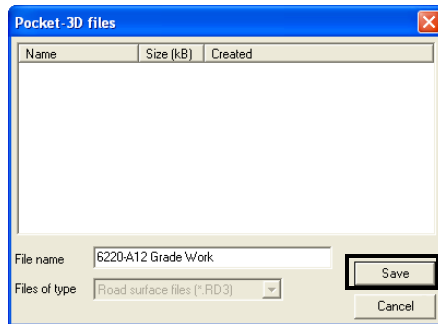

Figure 6-54. Save Alignment to Pocket-3D Controller
3. On the *Pocket-3D files* dialog box, do one of the following and press **Save** (Figure 6-54 on page 6-45):